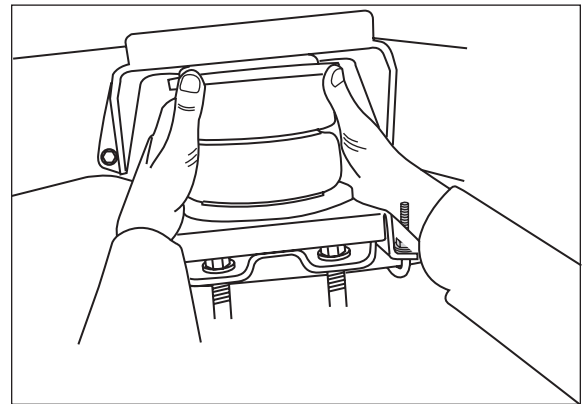

Figure 10
1. With the air spring still loose in the upper and lower brackets, align the air spring, both inboard and outboard using the slotted holes in the bracket so that it is uniformly positioned between the brackets (Figure 10).